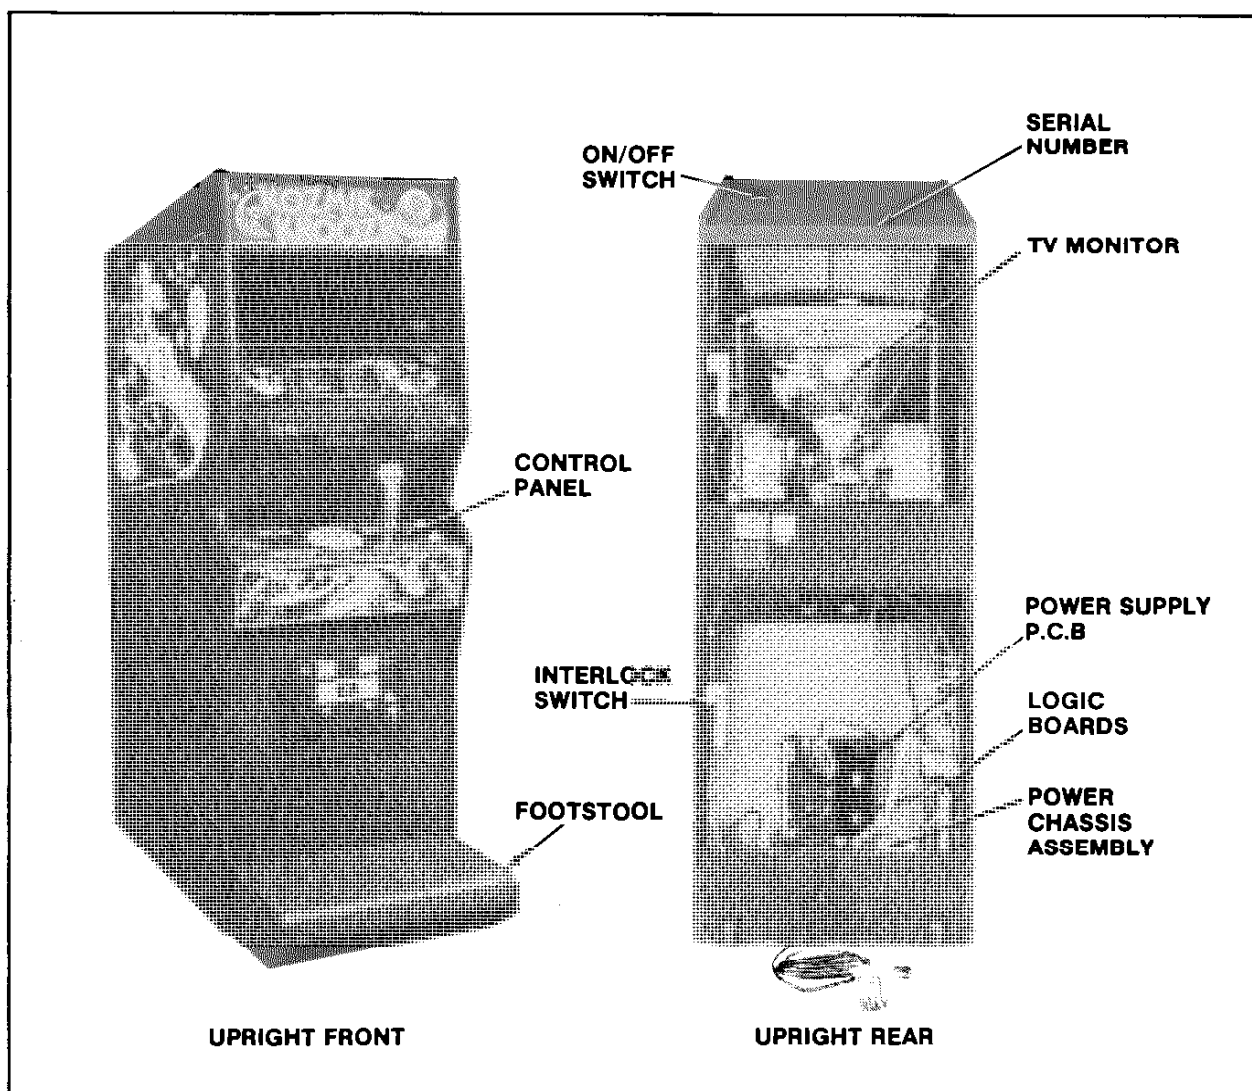

Figure 1-2 Location of Serial No., Interlock Switch, & Major Sub-Assemblies
6. Open the cabinet and inspect the inside of the game for any signs of damage. See Figure 1-2.
- Make sure all printed circuit boards (P.C.B.'s) are firmly seated in their connectors. See Figure 1-2. These connectors are also keyed. The
- Note the location of the game's serial number. See Figure 1-2.
- Check all major subassemblies to be sure they are mounted securely. These are called out in Figure 1-2.
3. Interlock and power ON/OFF switches. See Figure 1-2.
The game ON/OFF switches for all models are located as shown in Figure 1-2. Turn the game on and allow it to warm up a few minutes.